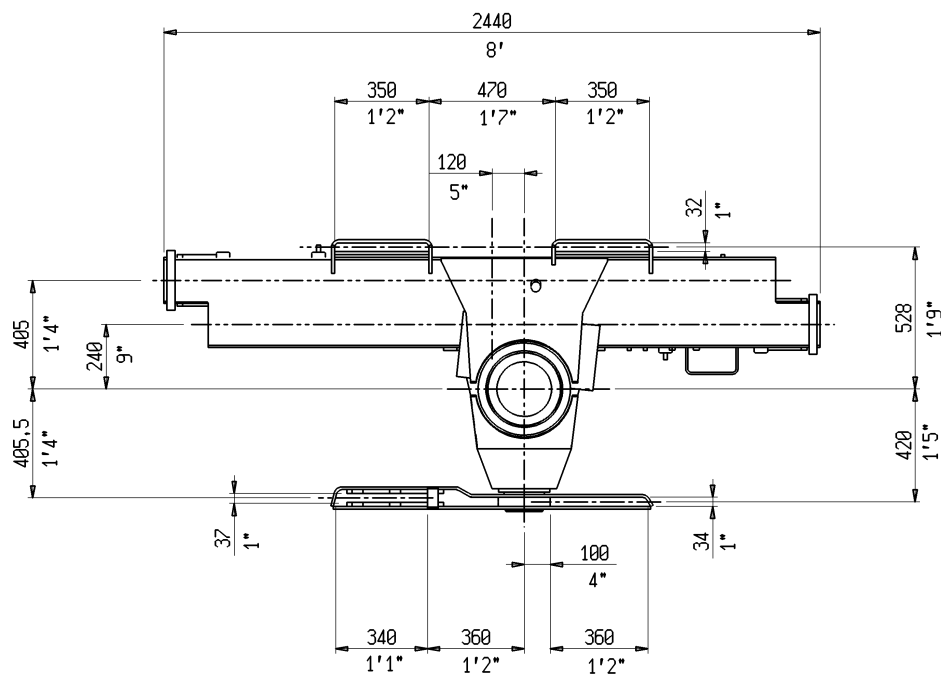

Fig.1-12
1.8.2 DIMENSIONI DI ANCORAGGIO (fig.1-12)
1.8.2 MOUNTING DIMENSIONS (fig. 1-12)